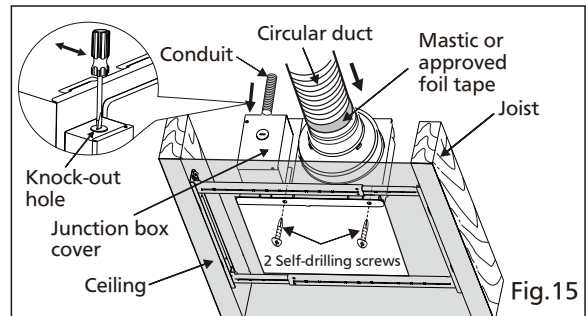

Fig. 15
3. Install the adaptor to Flex-Z Fast™ bracket by using 2 self-drilling screws. (Fig.15)